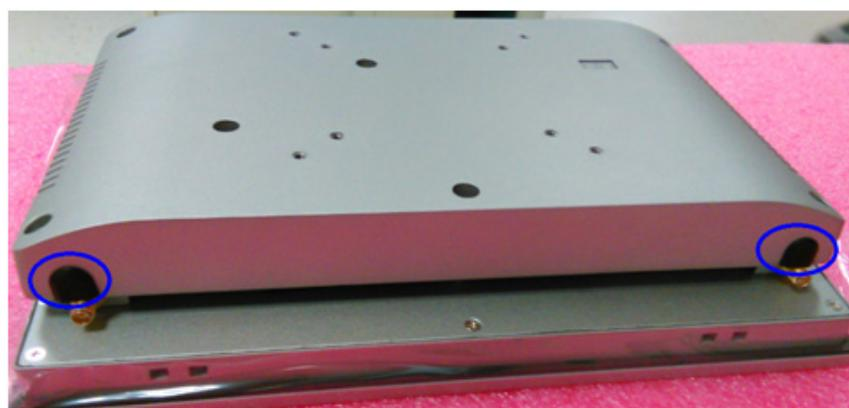

Figure 2.19 Remove plugs for antenna
5. Connect the cable to the Mainboard, then secure the rear cover. (See Figure 2.19)